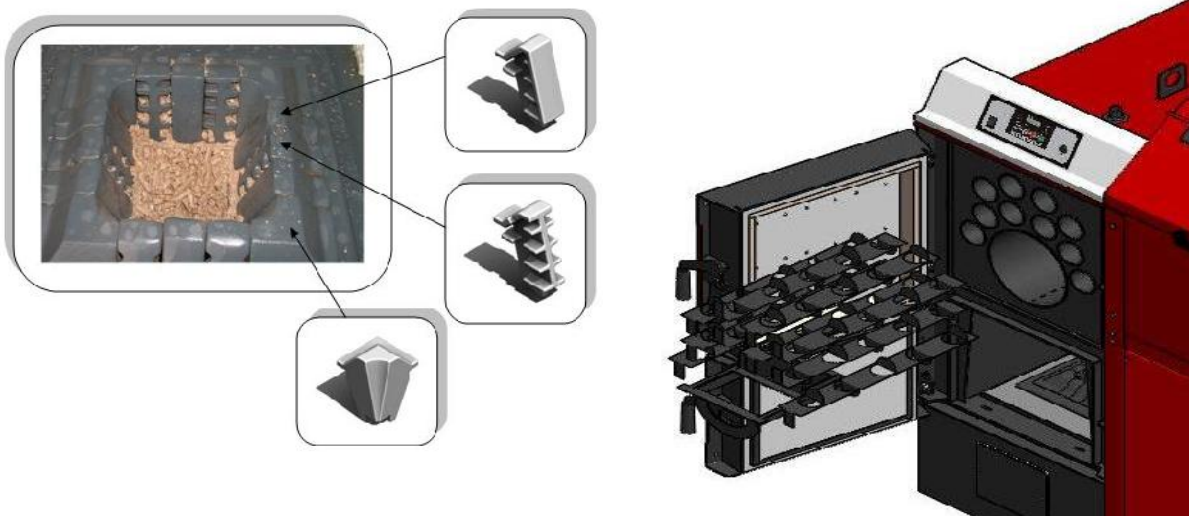
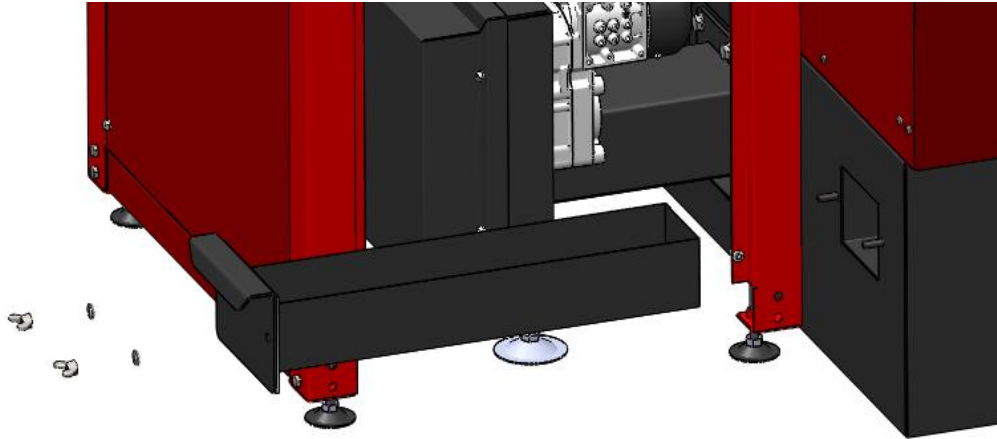

Figure 18. Display removing turbulators from boiler ECO COMFORT
Figure 19. Ashtray ECO COMFORT 45
- Once in a month it is necessary to open the top cover for cleaning, remove the turbulators and then from the whole area of the boiler the tar and soot should be removed (**figure 18.**). All that is removed in this way, can be collected and taken away through lower openings. Also you need to remove ash from ashtray (**figure 19.**)